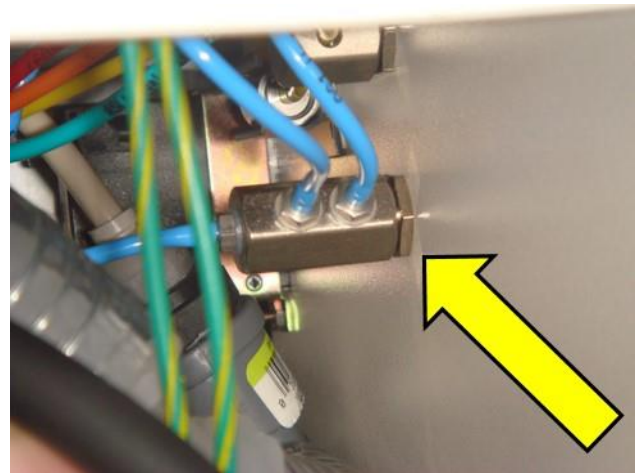

Fig. 8
15. Open back of the system using a flat head screwdriver. Then locate the backside of the routing valve. (Fig. 8)